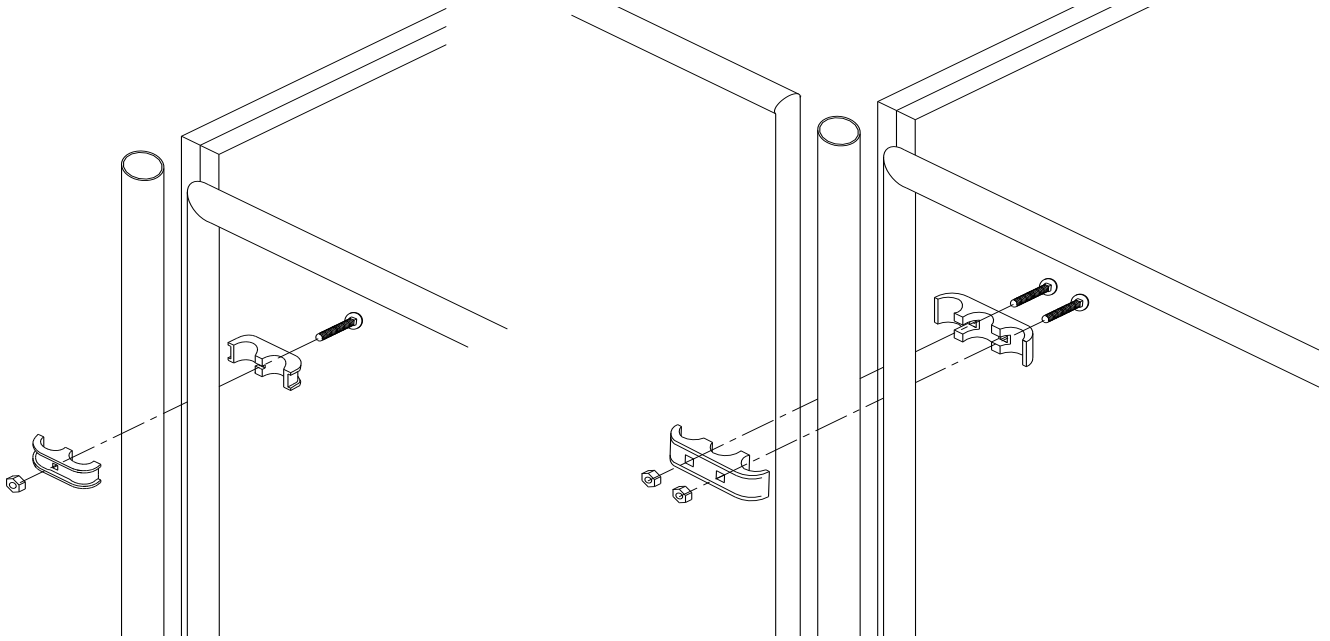

Figure 12
2. Attach the gate / stall front on the front of each run between the filler pipes with two clamps on each side using the 5/16" x 1-1/2" bolts and nuts provided as shown in Figure 12. Note: It takes two halves to make up one clamp. Attach gates / stall fronts to outside division panels using "panel clamps". All other gates / stall fronts will use "triple clamps". **To help ensure the safety of the animals the round head of the bolt should be assembled toward the inside of the run.** Note: The triple clamps attach two gates / stall fronts together. Therefore, you will have to hang two gates / stall fronts at the same time (see Figure 13).